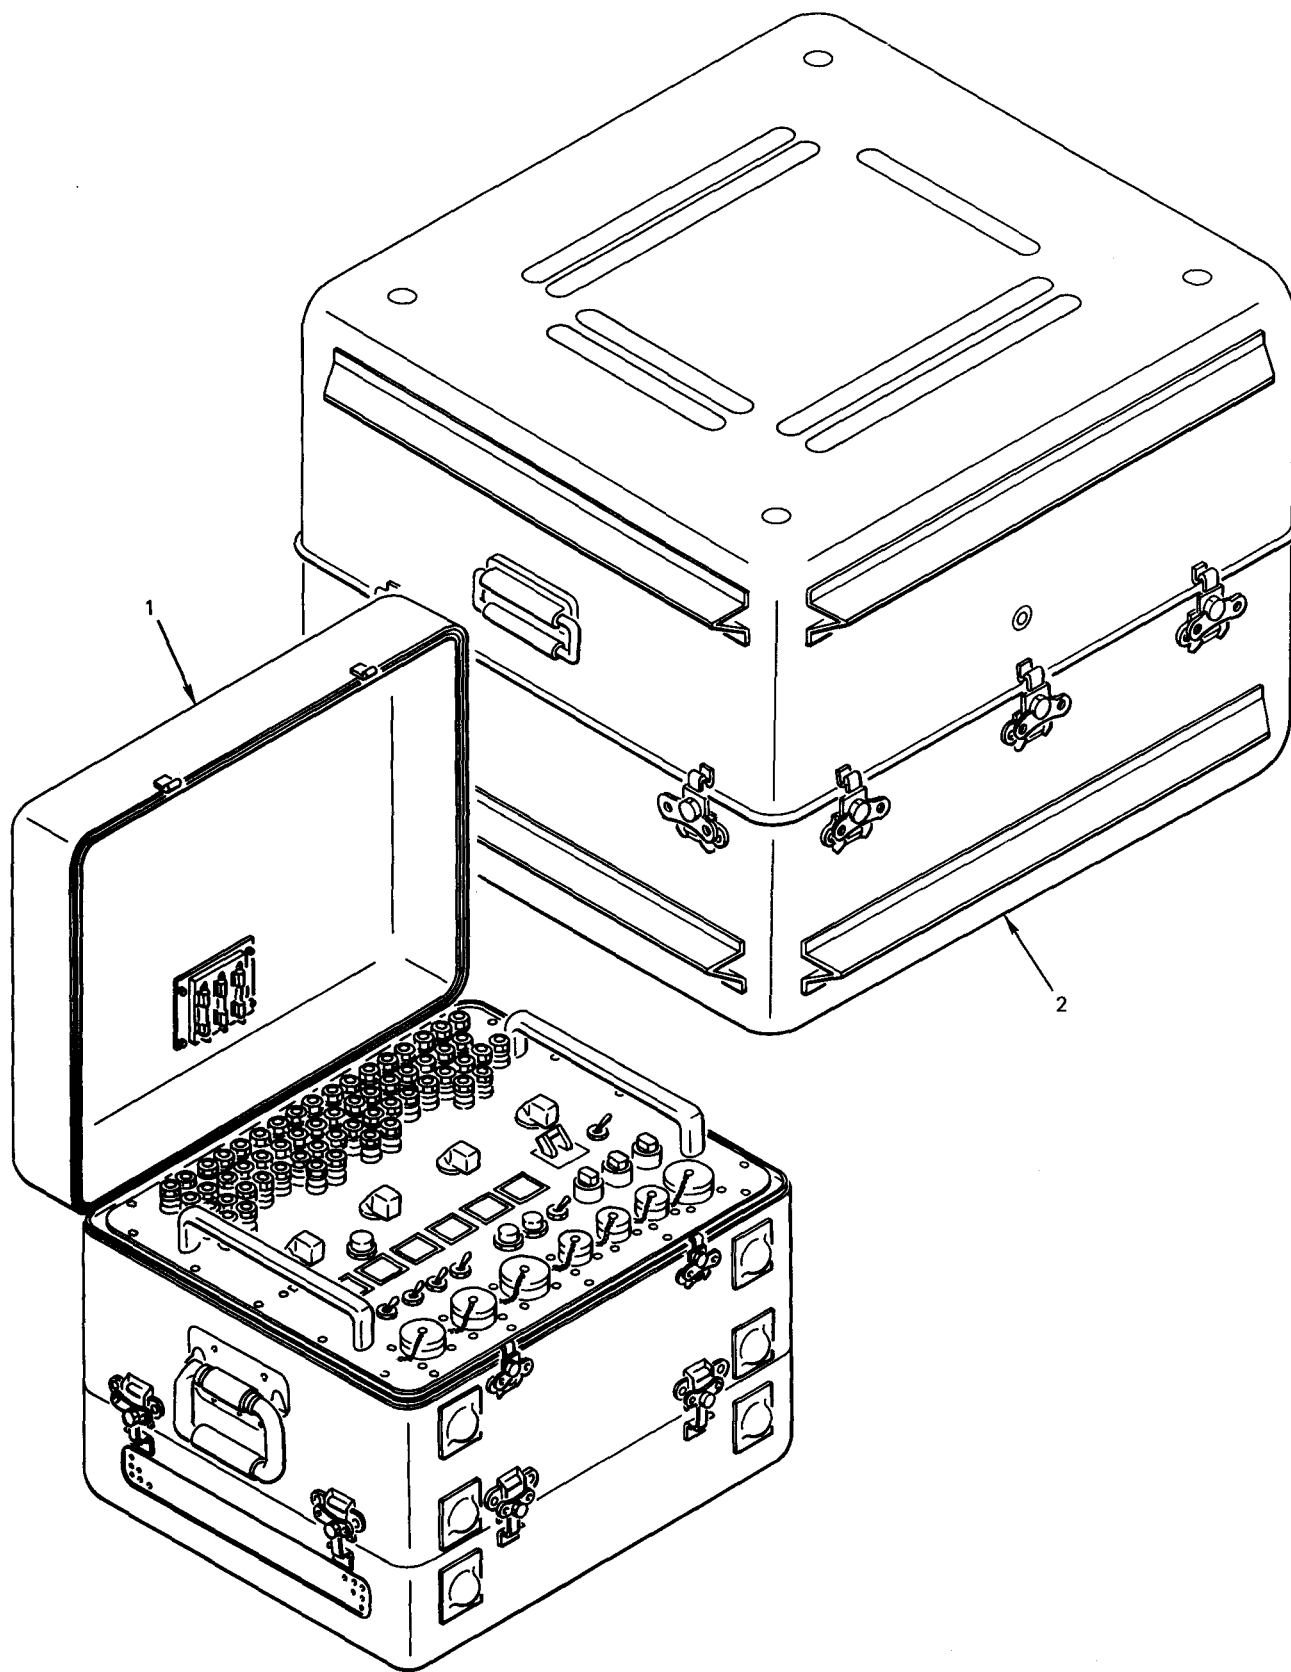

Figure 1-1. Power Supply Test Set AN/USM-428 (Sheet 1 of 2)
a. General. The PSTS, as illustrated in figure 1-1 and listed in table 1-2, consists of a transit case containing the power supply test set and a transit case containing a cable assembly set and a copy of this manual.
1-11. Items Comprising an Operable Equipment. Items comprising an operable PSTS are illustrated in figure 1-1 and listed in tables 1-2, 1-3, and 1-4.
Legend for Figure 1-1